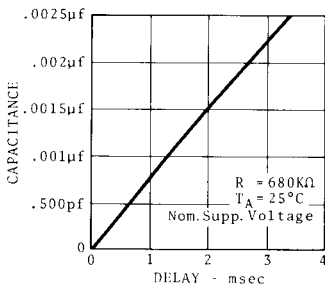

Fig. 5
* R1(680K Ω), C1(.001 μ f) provide approx. 1.5 ms delay (see figure 5)